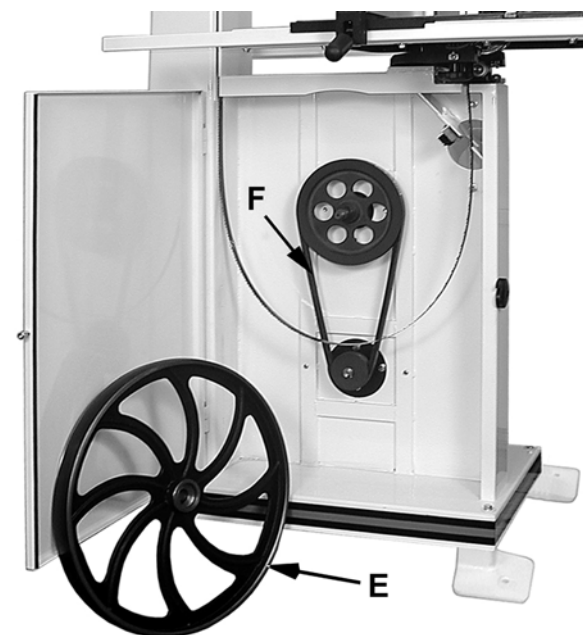

Figure 27
5. Remove the wheel (E, Fig. 27). If the lower wheel does not come off easily you may need to use a pulley puller to remove it.
6. Remove the *old belt* (F, Fig. 27) and install the new belt.